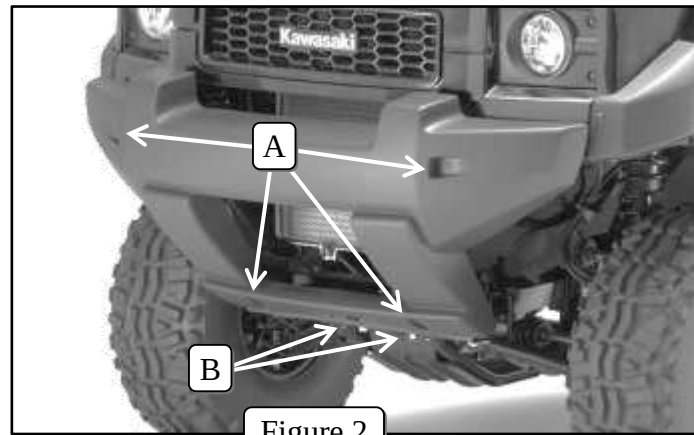

Figure 2
1. Remove 4 bumper bolts (A) as shown in Figure 2.
2. Remove two bolts (B) holding on front skid plate as shown in Figure 2 & 3. These will be replaced with bolts from the hardware kit.